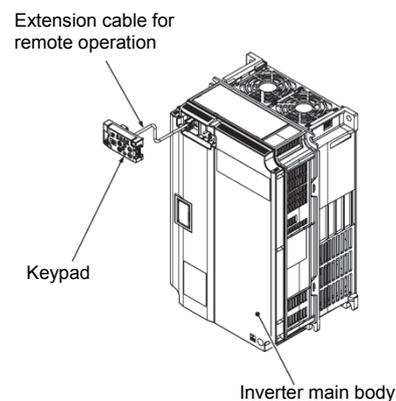

Figure 2.3-3 Operating the Keypad Remotely, on the Hand
- Operate the panel remotely, on the hand (refer to Figure 2.3-3)